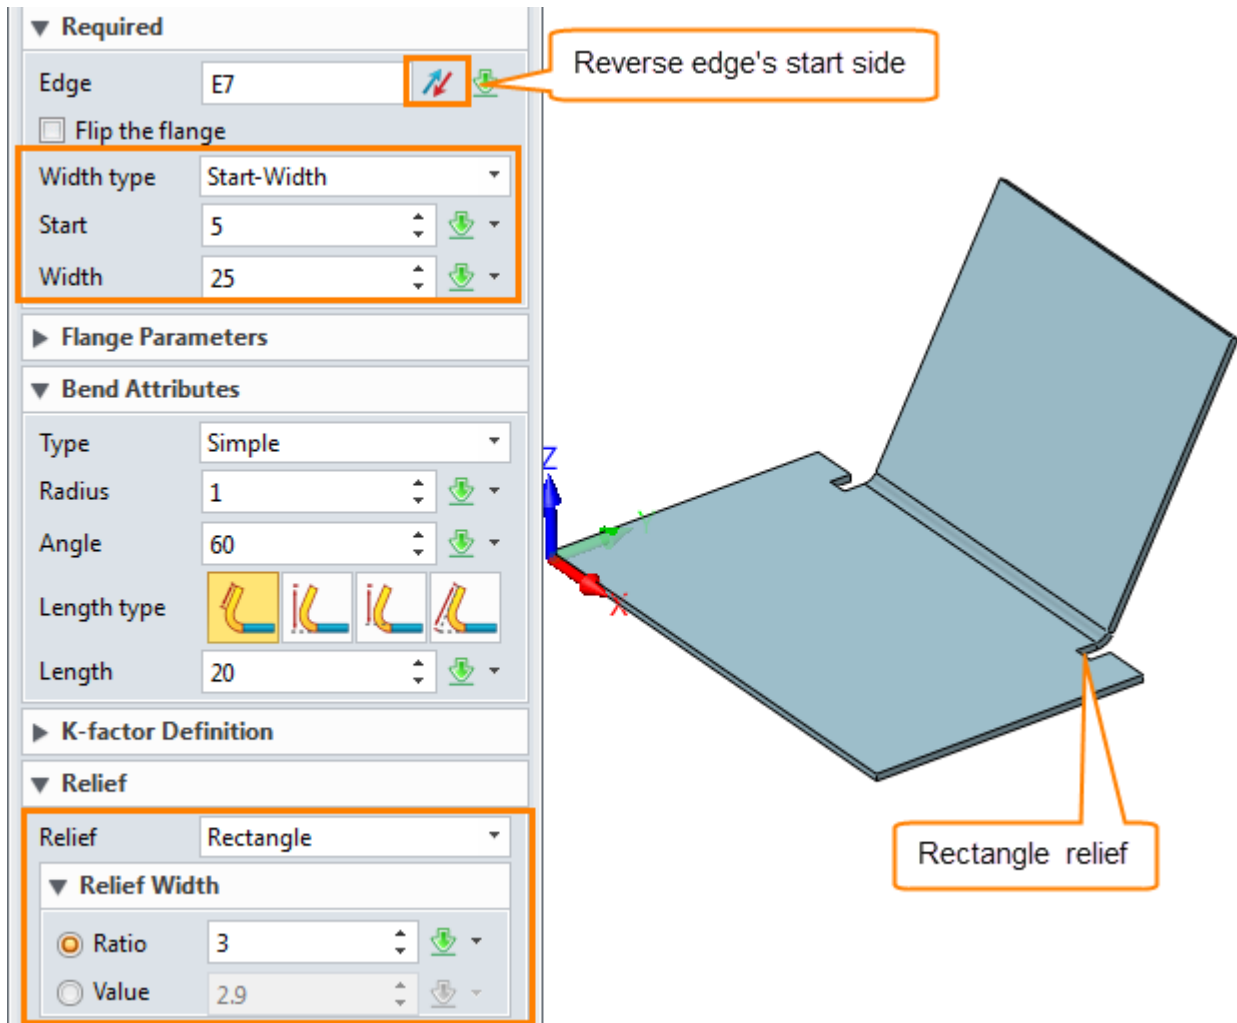

Figure20 Create Partial Flange
STEP 02 Create a partial flange on one of edges as shown in Figure 20.